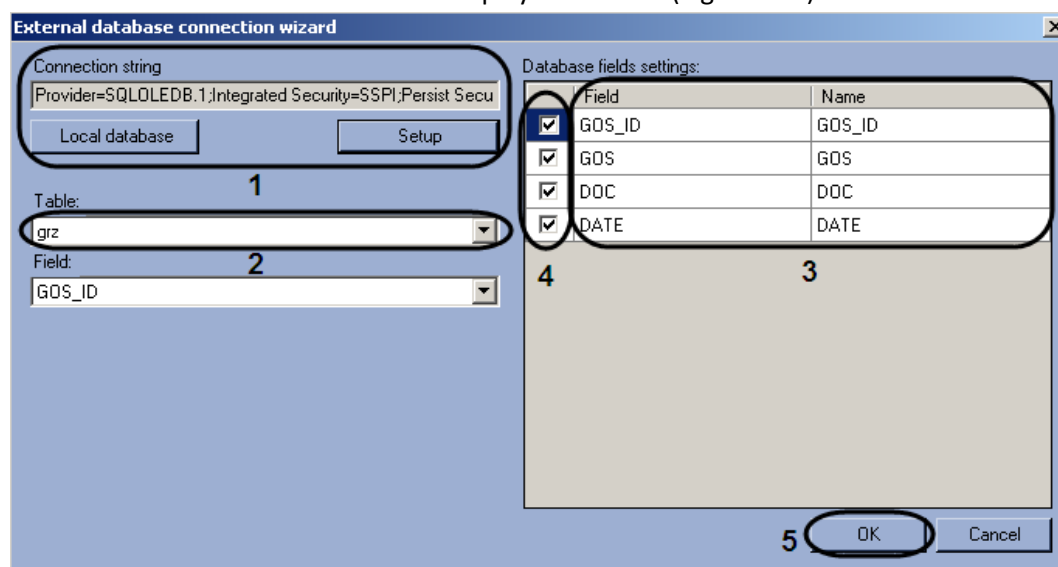

Fig. 7.6—9 Processing the table DB fields settings
5. Set the connection string to the External DB (Fig. 7.6—9, 1), then select from the table list the table, containing vehicle plates (Fig. 7.6—9, 2) (see steps 5-7 in the section External DB connection).
6. A list of columns in the selected table will be displayed in the «DB fields settings» table in result (Fig. 7.6—9, 3).